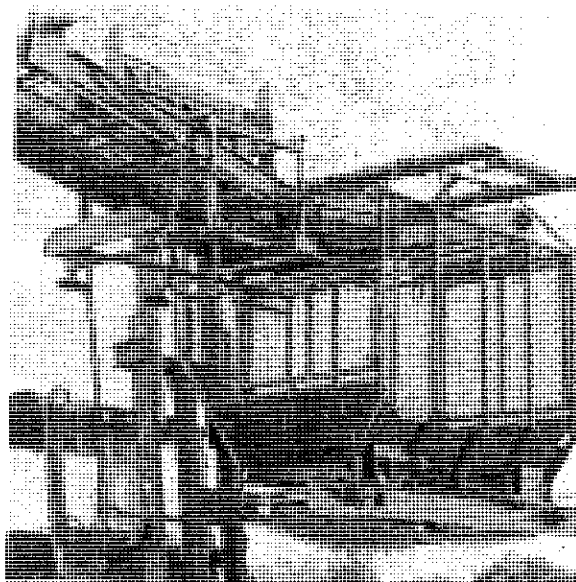

FIGURE 49 - LIFTING TANK ASSEMBLY
Pick up tank assembly and set in place on frame (see figure 49). For lifting, placing chain hooks in top tank tube ends works well. Use the six (6)  $\frac{1}{2}$ " x  $1\frac{3}{4}$ " carriage bolts, six (6)  $\frac{1}{2}$ " flat washers, six (6)  $\frac{1}{2}$ " lock washers and six (6)  $\frac{1}{2}$ " nuts provided to secure tank in place. ***Slide tank as far right and forward as possible and square up to frame.*** Tighten hardware.